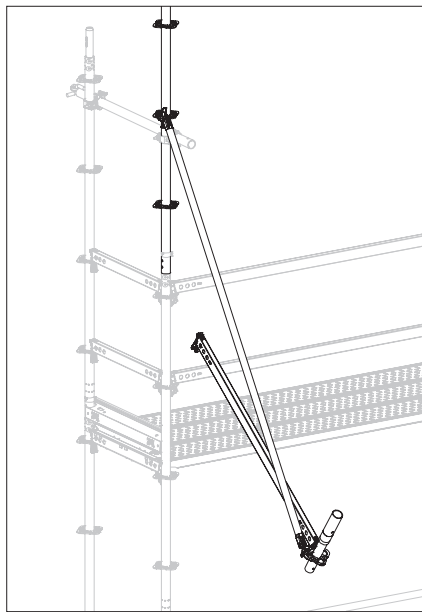

Fig. A4.04c
3. Hold the horizontal ledger at the free end and swing the other side outwards with the base standard. (Fig. A4.04c)